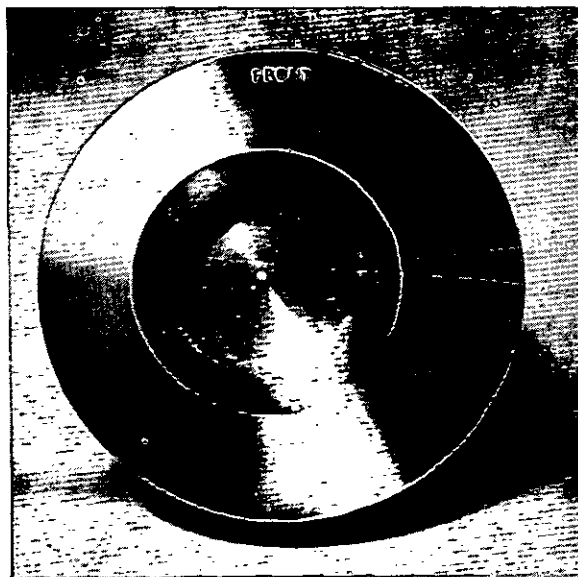

Fig. F.4. View of Piston Top Face.
1. With the stamped mark "FRONT" on the piston crown away from you and toroidal cavity towards the left hand side (Fig. F.4), place the connecting rod in position taking care to note that the number on the rod is to the left hand side. Insert gudgeon pin into position and fit new circlips, warming the piston if necessary.